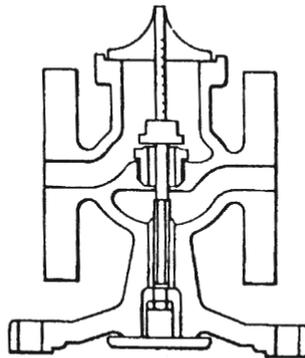

Figure 9 : Main valve seat service
8. Where a part has been fitted or where extensive lapping has taken place, it will be necessary to reset the main valve push-rod (23) to give the correct valve lift.
9. To do this it is necessary to expose the main diaphragm plate and push rod assembly (23) by following steps 1,2 and 3 in section 7.3.7
10. Refit the push rod assembly (23) and replace main valve head (21) making sure that it is located onto main seat.
11. The main valve can now be opened by pushing on the plate (24) until it comes up against the stop on the body. See fig 9. Check the valve lift by using a depth gauge as shown in Table 3.
12. If the lift is different from that shown in the table 3 slacken the locknut (25) and adjust the lift by screwing the push rod (23) in or out of the main diaphragm plate (24). When the lift is correct retighten locknut (25)